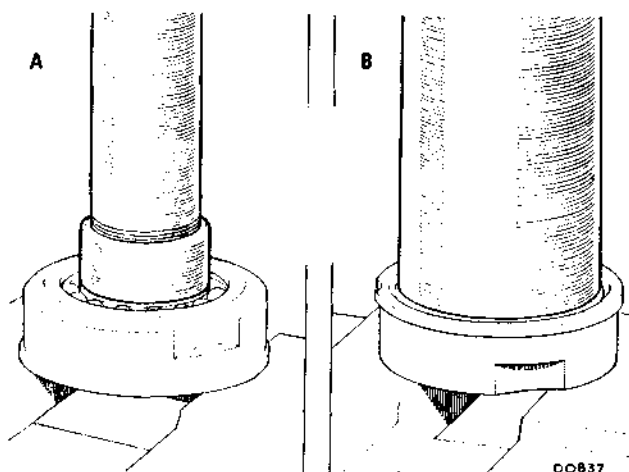

Fig. Fb.10
19. Press the bearing from its housing (see Fig. Fb.10).